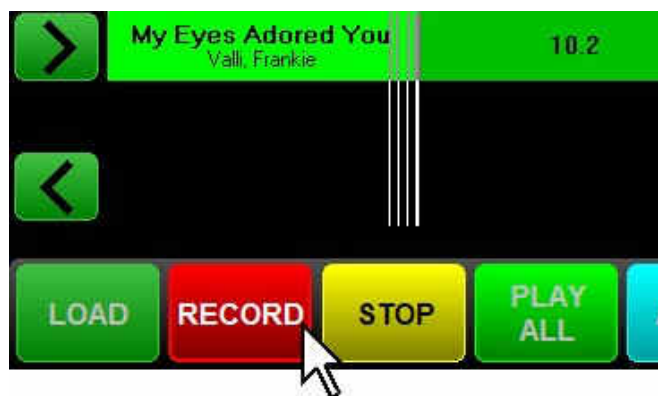

Figure 6-18. Clicking the Record Button
- g. As Cut 1 plays, click the **Record** button at the point you want to start recording from your microphone (see Figure 6-18).